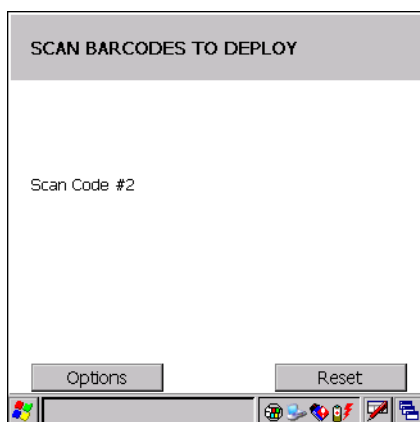

Figure 8-7 *Rapid Deployment Window*
- b. Multi-part linear bar codes (1-D bar codes) can require scanning several bar codes. Bar codes can be scanned in any order. The text box under **Bar codes left to scan...** shows the remaining bar codes to scan (see Figure 8-7).